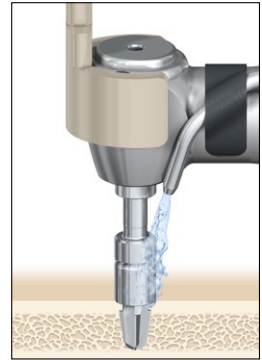

Fig. 15: Drilling with Guide drill with spacer removed
7. If a 3 mm BI300 Implant is preferred, continue to step 8. If there is adequate bone thickness and a 4 mm BI300 Implant is preferred, remove the white spacer on the guide drill and continue drilling as appropriate to accommodate the 4 mm BI300 Implant. (Fig. 15).